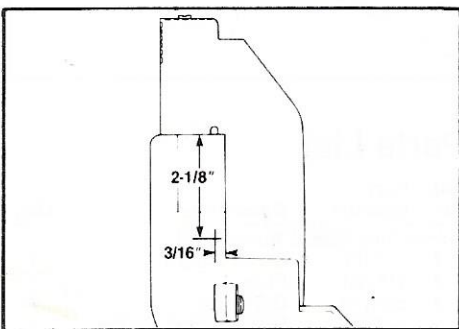

Figure 5. Marking the position for the screw hole.
d. Position and hold the folded tabs, with holes aligned, against the rib on the top and the left side of the inner guard (C). Using the deflector holes as a template, mark the hole position on the top of the inner guard using a scratch awl. Unfold the tabs and drill the hole using a 3/32" bit.
e. Refold the tabs and secure the deflector to the top of the guard using screw (4).
f. Mark the center of the hole for mounting the screw (4) on the outside of the inner guard (C). (See Figure 5.) Drill the hole perpendicular to the outside surface of the inner guard. Mount the screw (4) and washer (5) from the inside, through the bottom of the slot and into the inner guard. Tighten the screw until it bottoms out and then back it out 1/4 turn.